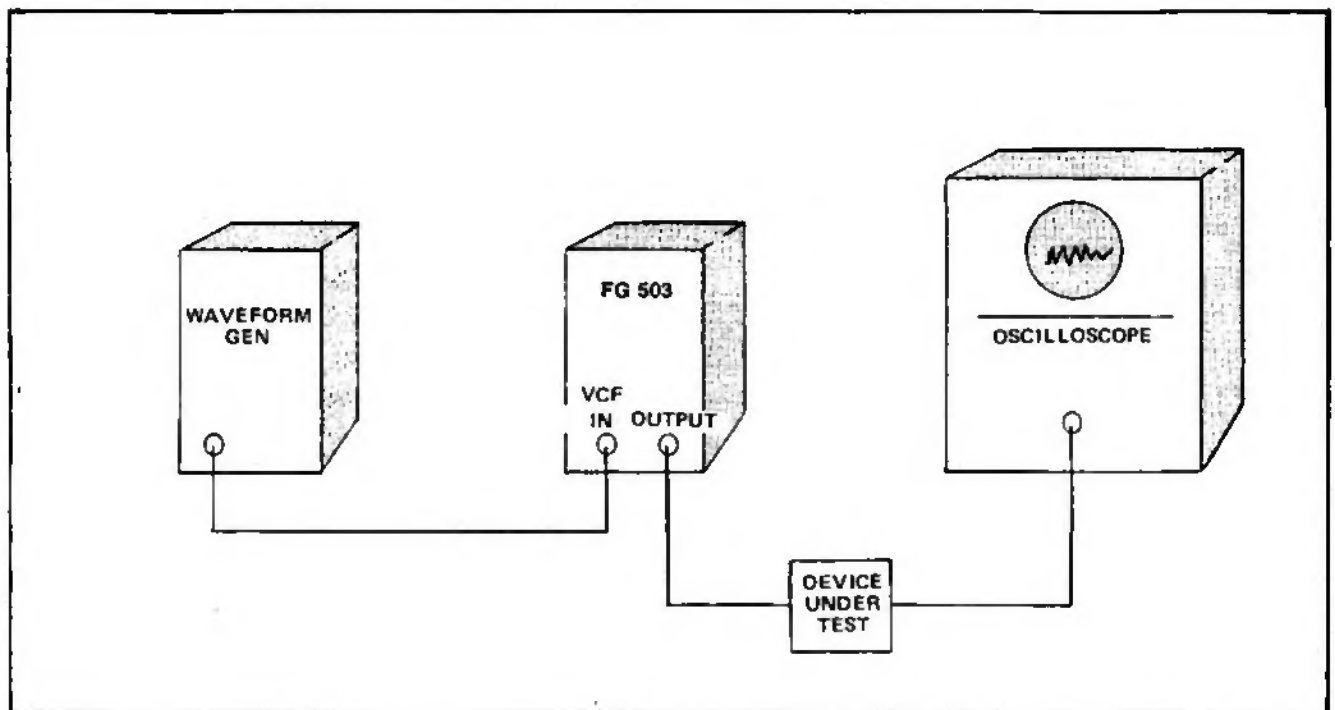

Fig. 1-7. Analyzing circuit or system response.
1. Connect the equipment as shown in Fig. 1-7.